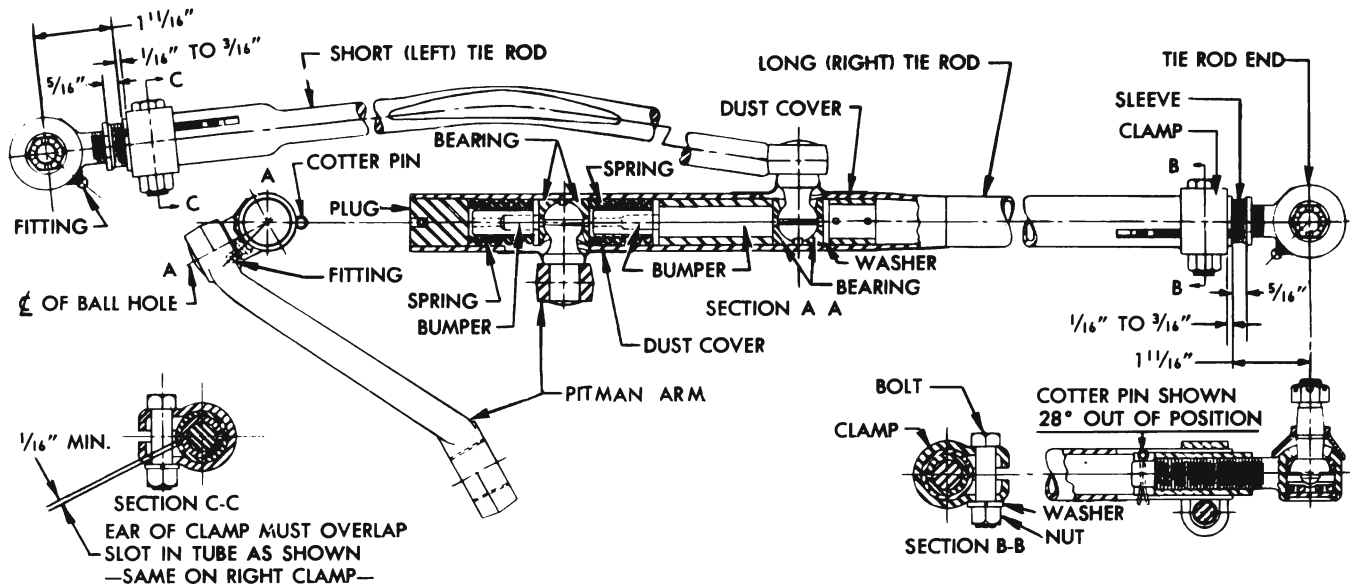

Figure 7-4—Tie Rods and Tie Rod Ends
a single screw. The sleeve is locked in place by a clamp which fits over the slotted end of the tie rod. During adjustment the tie rod end is prevented from turning in the sleeve by a large cotter pin which passes through the shank on tie rod end into the slots in end of tie rod. See figure 7-4.
The openings through which the ball studs enter the tie rod are protected by pressed steel dust covers to keep lubricant in and dirt and water out. See figure 7-4.
1. Disconnect steering tie rod from pitman arm by unscrewing tie rod plug until bearings will release the ball stud. See figure 7-4. Check tightness of pitman arm nut with 18" wrench.
10. Connect steering tie rod to pitman arm, being careful to properly seat the bearings around ball stud. Make sure that the pressed steel dust cover properly covers opening around ball stud. See figure 7-4. Turn the tie rod plug up solid then back off two turns and install cotter pin.